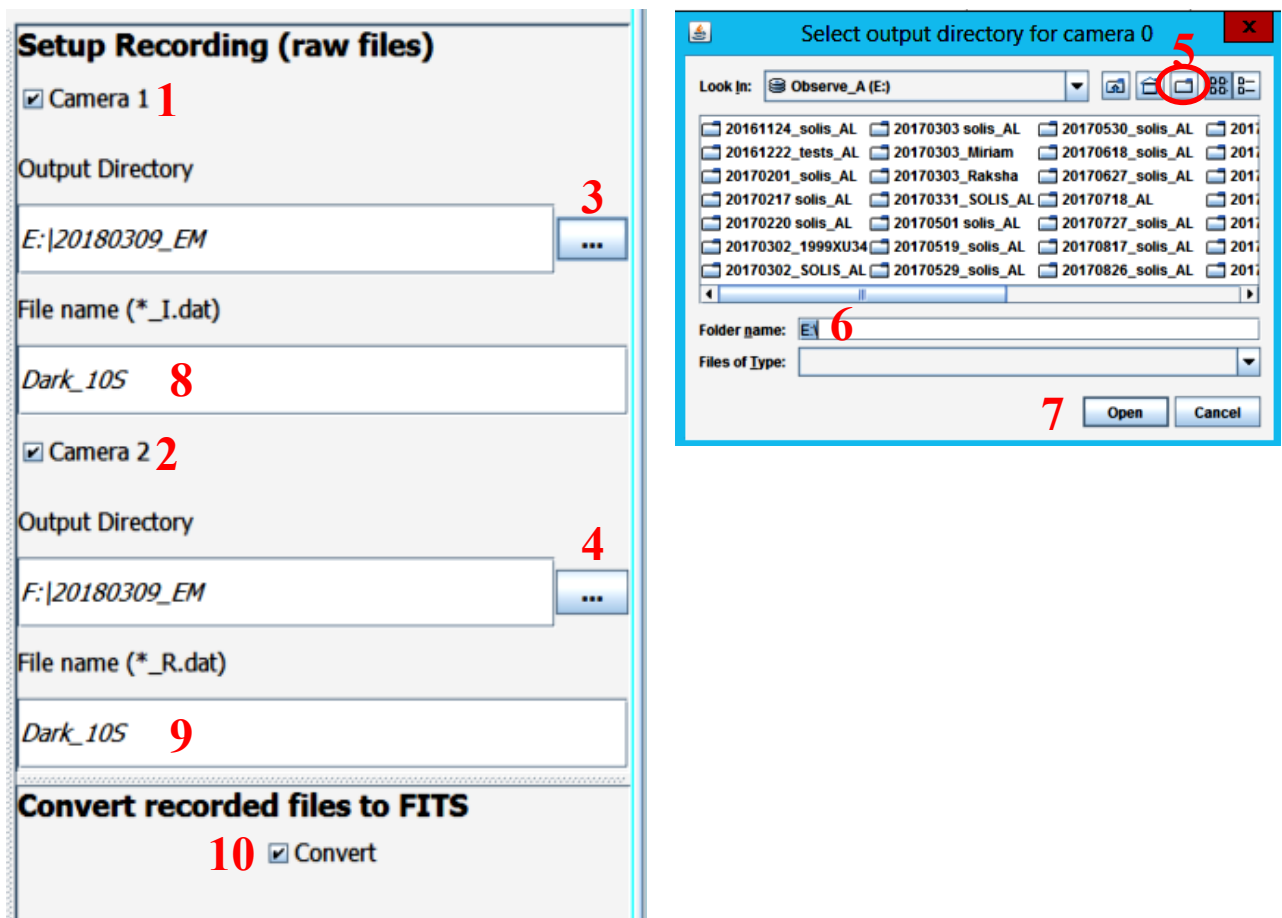
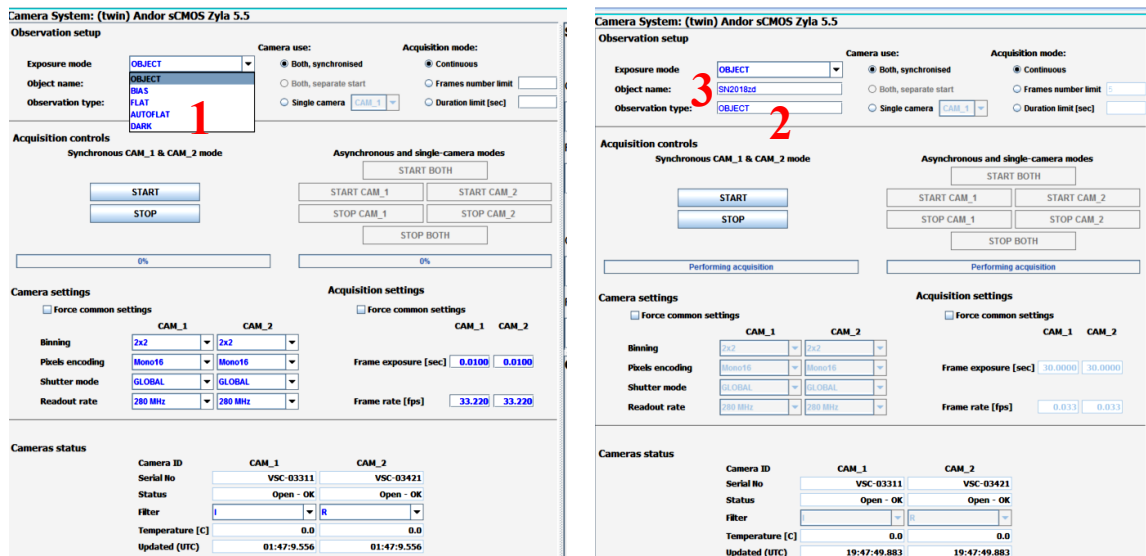

Fig. 6.16. Left: The “Setup Recording” menu. Right: Browsing for output directory.
Fig. 6.17. Selecting exposure mode and typing the name of the object to be included in the FITS header.
2. In the “Setup Recording (raw files)” menu (Fig. 6.11 C) check the boxes to enable the camera(s) recording (Fig. 6.16 No 1-2).
3. Browse for output directory (Fig. 6.16 No 3-4). Once the browse button is clicked the default windows of the “Observe_A” and “Observe_B” hard disks open for each camera, respectively. Unless you are told to, do not select another hard disk for saving the data.
4. Create a new folder (Fig. 6.16 No 5), give a name (Fig. 6.16 No 6), select it and press “Open” (No 7). It is recommended to follow the format: YYYYMMDD_XX, where XX are the observer’s initial letters. This step has to be done for each camera. You can give the same name to the directory, since it is stored in another hard disk (Fig. 6.17 No 3-4).
5. Give “File name” (Fig. 6.16 No 8-9). You can give the same file name. The suffixes “_R” and “_I” are automatically given by the software.
6. Check the “Convert” box (Fig. 6.16 No 10).
7. In the “Observation Setup” menu (Figs 6.11 B1 and 6.17) select the appropriate “exposure mode” (Fig. 6.17 No 1) from the drop down menu¹¹. This is only for the FITS header. The “observation type” box is then automatically filled (Fig. 6.17 No 2).
8. Add an “Object name” (Fig. 6.17 No 3). This is only for the FITS header.
2. Select the appropriate exposure mode from the drop down menu (Fig. 6.17 No 1).